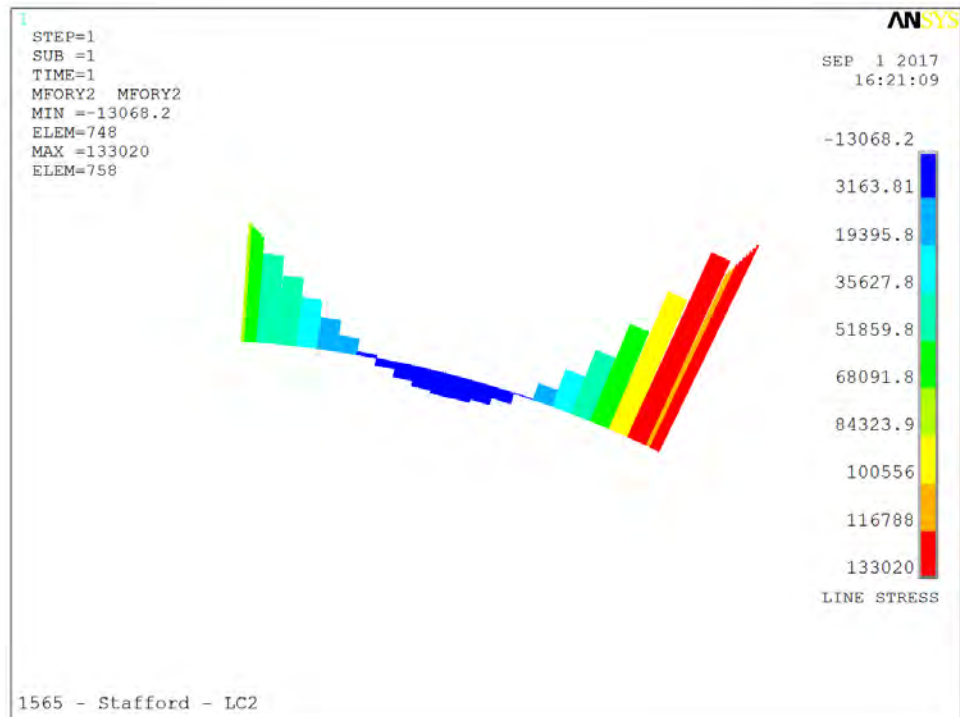

Fig. 2B
- **Fig. 2B - Dome shear force (lbs/360)**